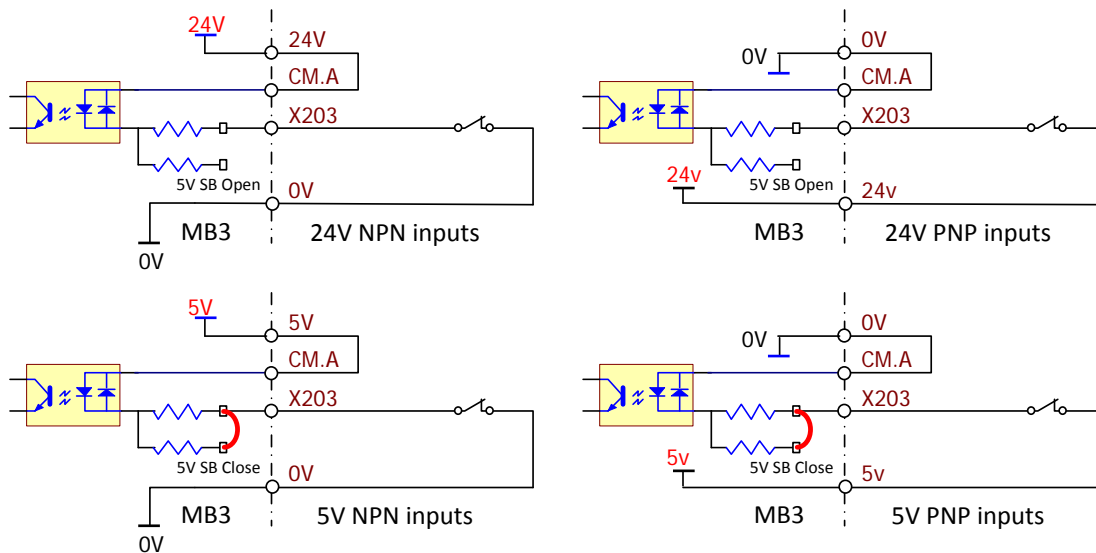

Figure 11, Basic input connections with internal power
**Figure 11**, shows the 4 different methods to connect a switch with **on board** power supply. On the left side is NPN input type which connects a switch between input X203